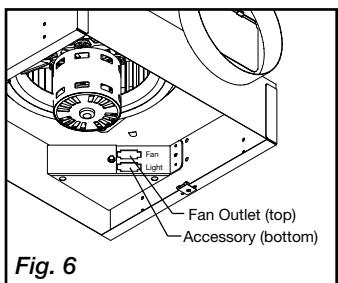
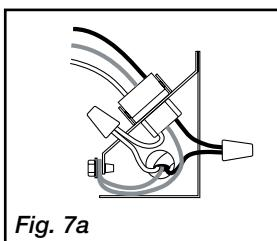

Fig. 6
Fig. 7a
1. Remove wiring cover. If fan/accessory combination is being used, make sure the fan plug is connected to the fan receptacle and the accessory plug is connected to the accessory receptacle, shown in Fig. 6. Using proper wire connectors, wire the fan as shown in Fig. 7a. For wiring of light proceed to Fig. 7b.